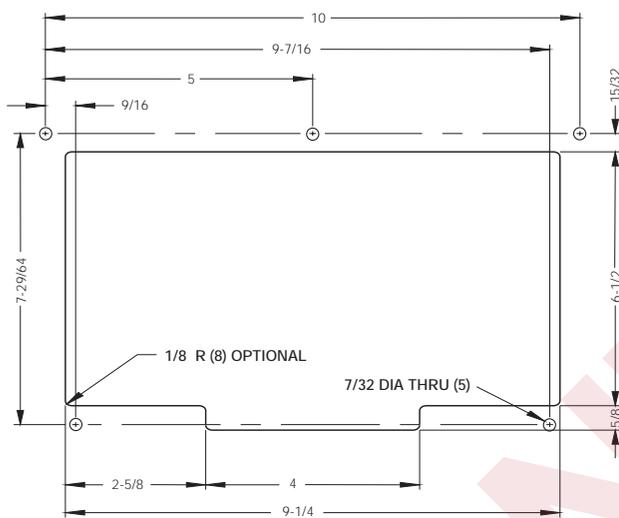

Figure 2-8. IQ plus 810 Panel Cutout
1. Create a template using the drawing in Figure 2-8 to mark the hole cutout in the panel.
5. Using a template made from the drawing shown in Figure 2-8, transfer the cutout to the panel. Cut out the panel and drill the holes to size. Hold the faceplate against the panel and secure with the five machine screws and washers provided.